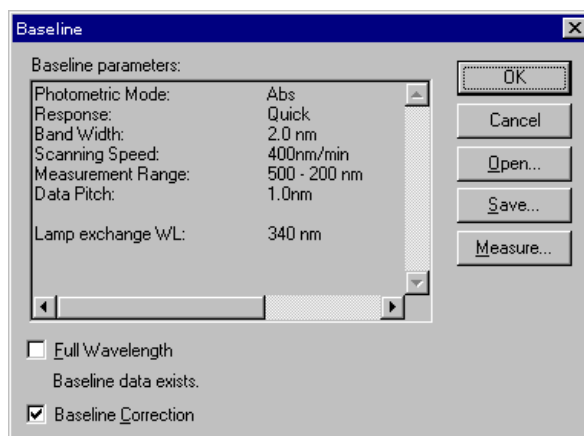

Figure 5.7 [Baseline Correction] dialog box
- 3) Click <Measure...>. Baseline measurement starts after transferring the measurement parameters to the spectrophotometer. When measurement finishes, a check mark is put in the [Baseline Correction] check box and the [Parameters-Save] dialog box (Fig. 5.7) opens. Simultaneously, the baseline data is automatically transferred to the [Spectra Analysis] program and is displayed on the View.